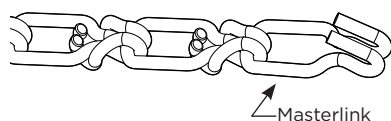

Figure 8
6. Slide the chain fully to the back of the master link as shown in **Figure 8**.